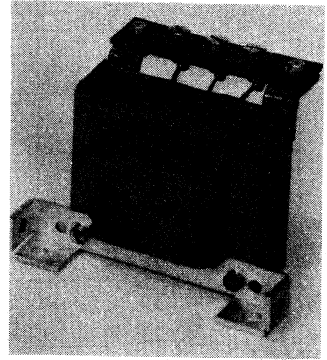

Fig. 32 Example of a choke.
- C) For **electrical parallel connection** order also chokes (Fig. 32); see column 3 of the table.